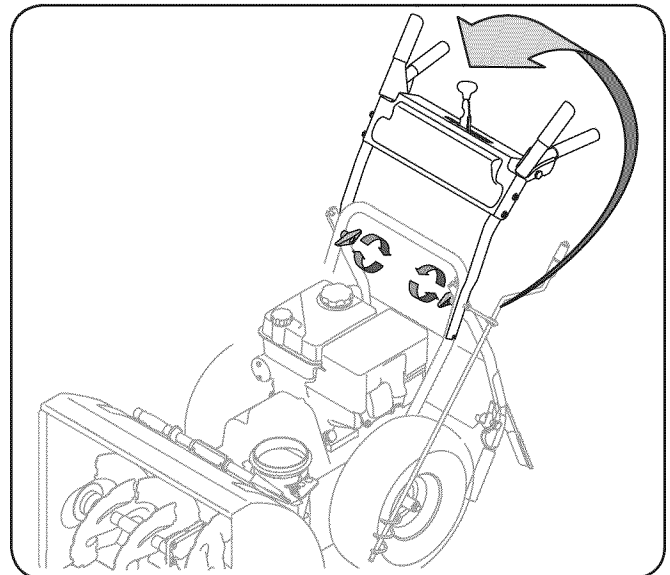

**Figure 3-16**
6. Insert chute directional control rod into rear of the chute control assembly. Secure the chute directional control rod to the chute control assembly with the hairpin clip removed earlier. See Fig 3-16.